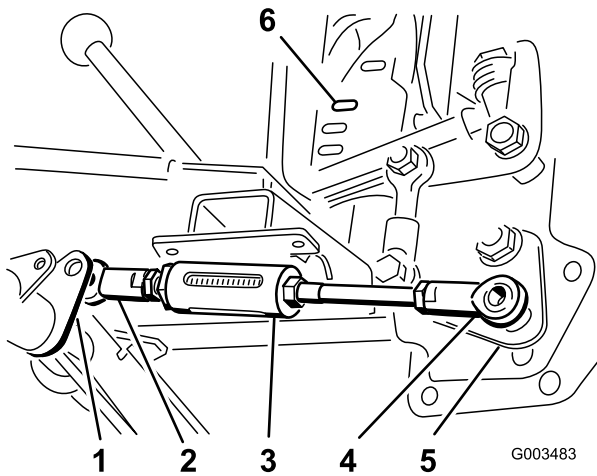

Figure 7
- Position the ball joint of the short end of the adjustable rod assembly to the right of the adjustable rod lever on the pivot tube (Figure 7).
- Place the ball joint on the long end of the adjustable rod assembly over the stud on the bottom on the lift handle assembly and loosely secure it with a locknut (1/2 inch) (Figure 7).